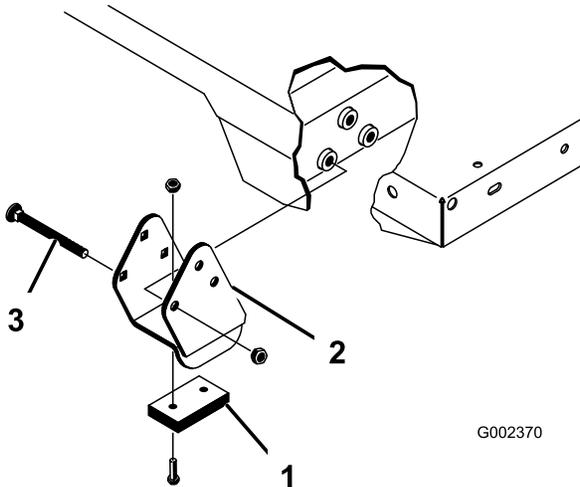

Figure 44
Note: Install the spacer brackets and wear blocks (Figure 44) with the carriage bolt heads positioned inside the machine.
in the rear frame channel and install 2 clevis pins and lynch pins (Figure 44).
4. Insert the clevis pin from outside of the bed with the lynch pin toward the outside (Figure 44).